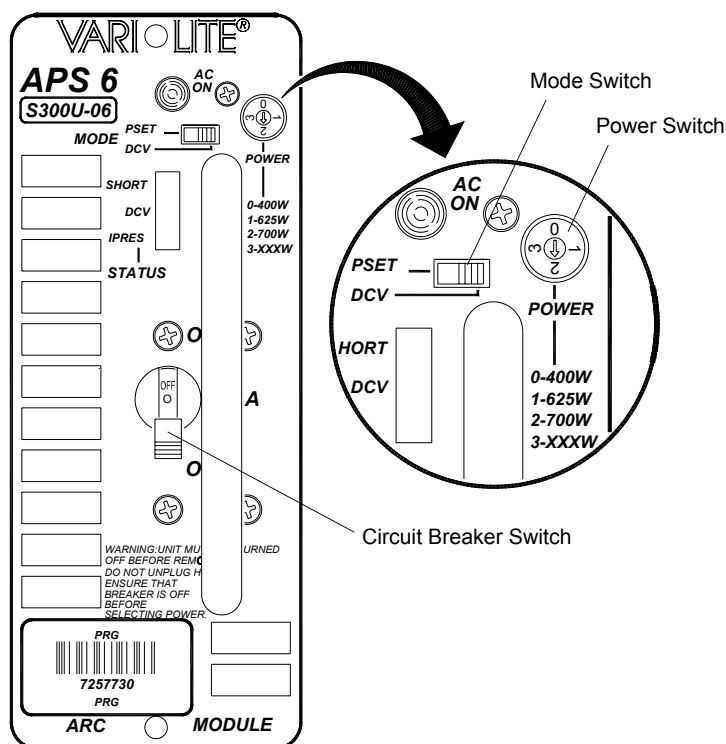

Figure 2-12: APS6 Module
- Step 1. At face of APS6 module(s), set rotary power switch to 625W - Position 1 (**Figure 2-12**).